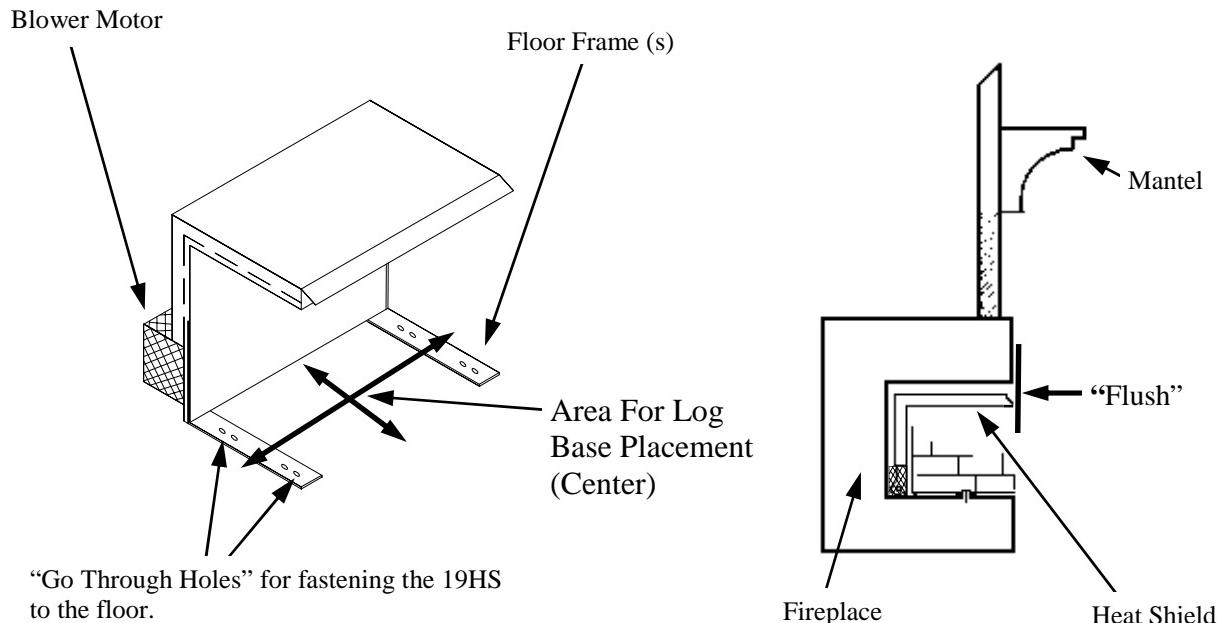

Figure 8
**NOTE:** Centrally locate the Heat Shield in the fireplace and place it deep enough into the fireplace to accomplish adequate draft (if use as a vented heater is planned). Ensure that the Heat Shield front is inside the front edge of the fireplace, see Figure 8. Using the screws and anchor provided, fasten the Heat Shield to the floor of the fireplace. On each side of floor frame of Heat Shield base, there is a "go through hole". Position the Heat Shield as described above. Mark the hole for drilling. See Figure 8.